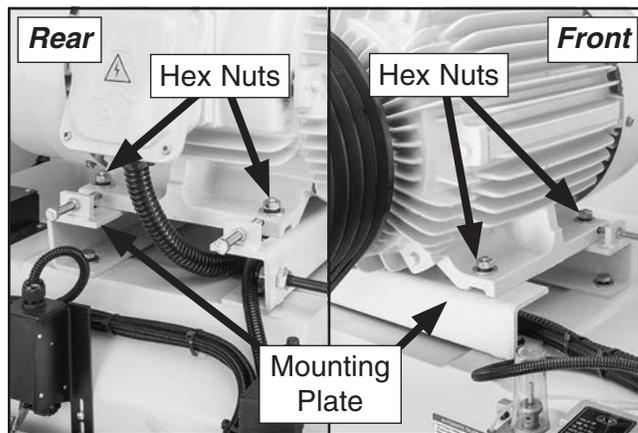

Figure 88. Location of upper cutterhead motor mounting hardware.
4. Loosen hex nuts on hex bolts that secure motor to mounting plate (see **Figure 88**).